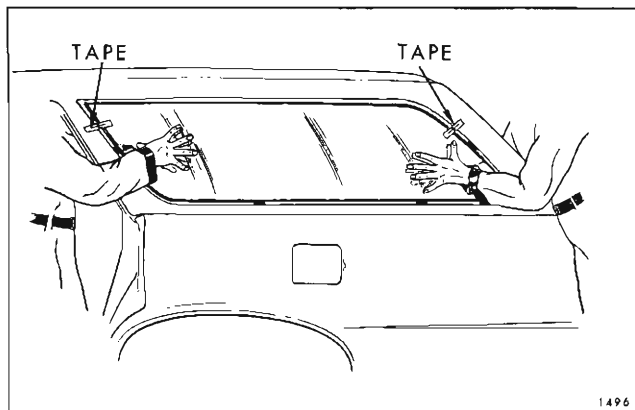

Fig. 2E40—Rear Quarter Window Installation
2. On all but "15" styles, cement eight (8) flat spacers (.20 x .63 x 1.0 - Part No. 4459429 or equivalent) to window opening pinchweld flange with black weatherstrip adhesive as shown in Figure 2E38. On "15" styles omit bottom center spacer.
3. With black weatherstrip adhesive, cement four (4) rectangular spacers (.30 x .44 x 1.0 - Part No. 4404196 or equivalent) to quarter window lower and side opening rabbets in the depressions provided, two (2) across lower rabbet and one (1) on each side rabbet (Fig. 2E38).
4. With aid of a helper, carry glass to body as shown in Figure 2E39. Then, with helper supporting glass with both hands, reach one hand around body pillar and support glass while helper also reaches around pillar to assume position shown in Figure 2E40. Position glass in opening by making contact along upper edge first, then swing in lower edge.
5. Check relationship of glass to pinchweld flange around entire perimeter. Overlap of pinchweld flange by glass should be equal with a minimum overlap of $3/16$ ". Inadequate overlap across top may be corrected by replacing two (2) rectangular glass support spacers across bottom with thicker spacers. Standard spacers are .30" thick, but .34" thick spacers are available as a service part (See beginning of procedure).